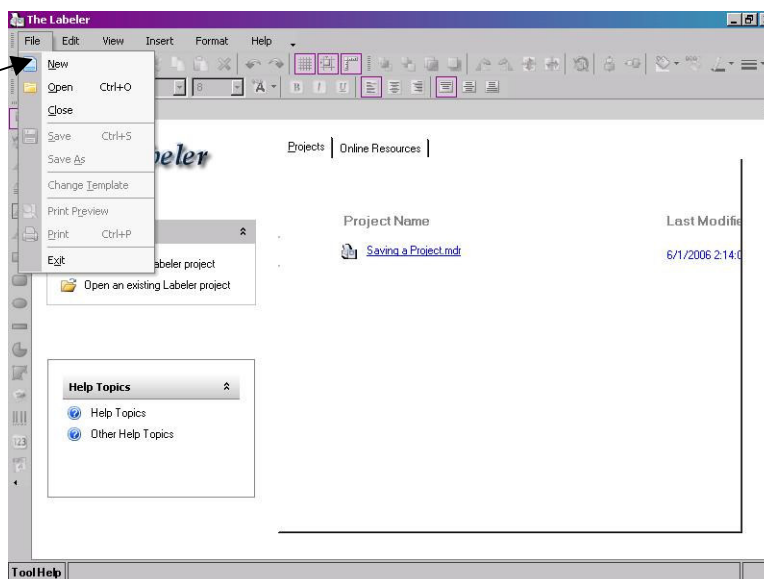

Figure 3.3.2: Main Screen part 2
3. Type the text in that you wish to be shown on the label (see Figure 3.3.2.3).